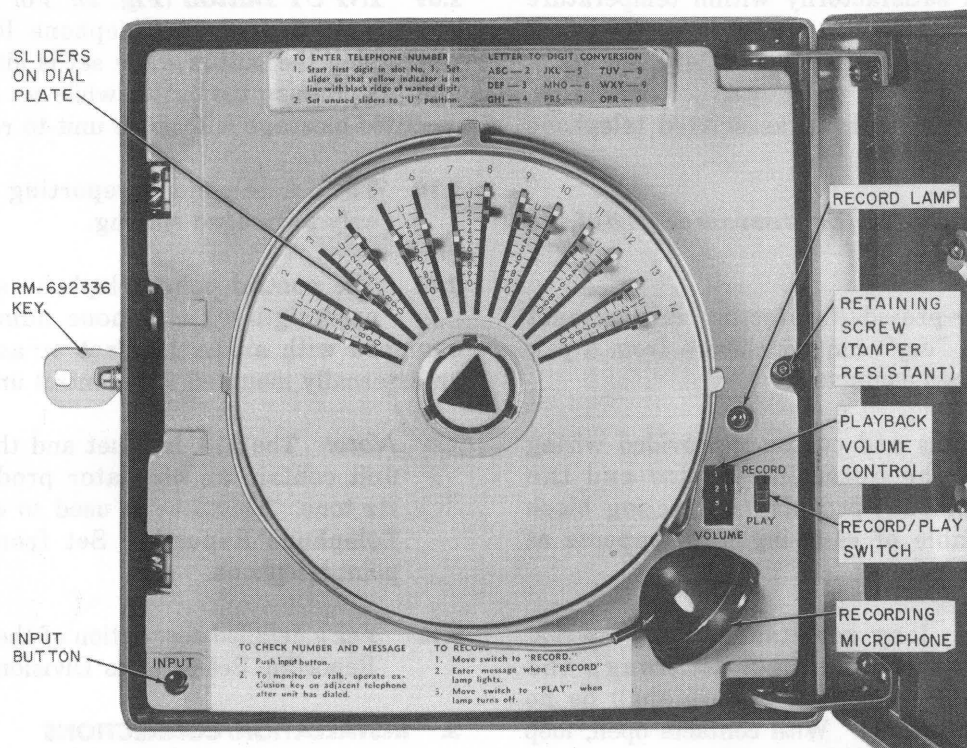
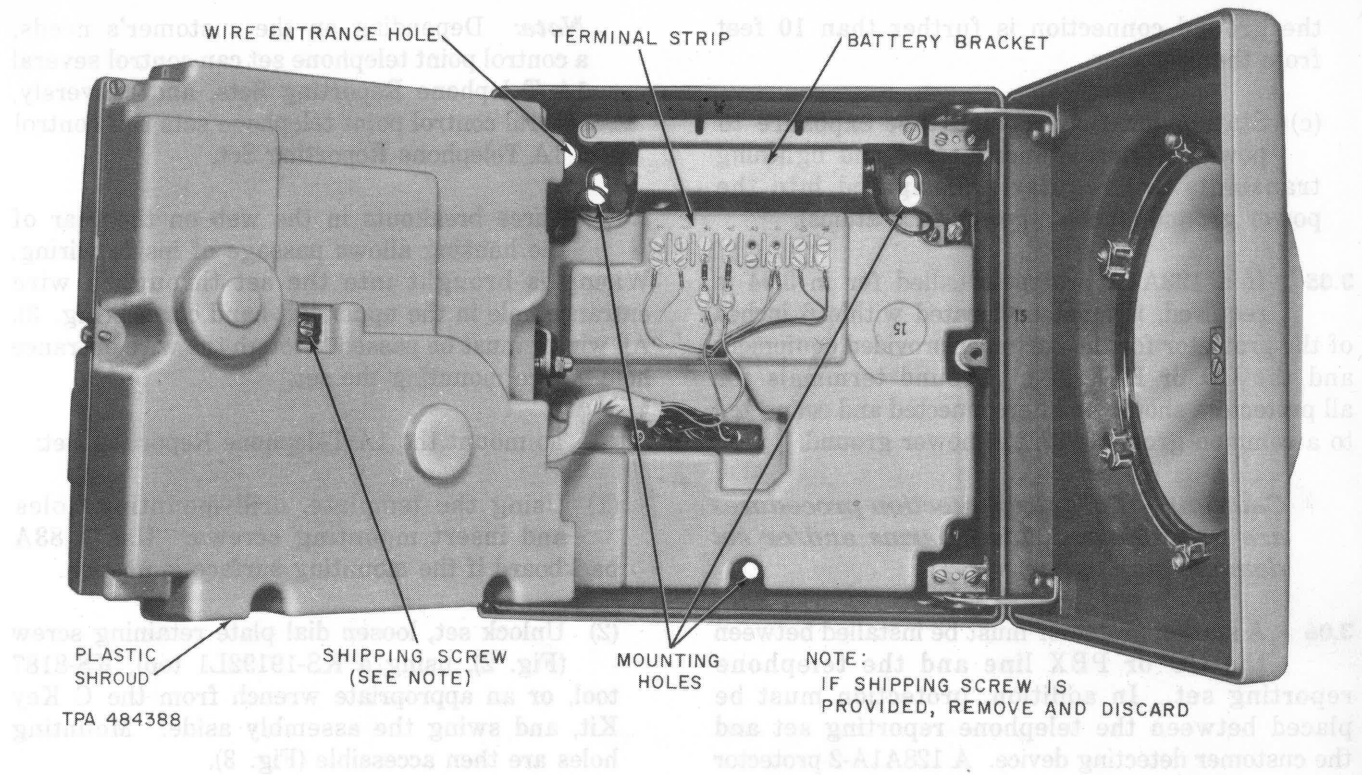

Fig. 2—1A Telephone Reporting Set, Controls
Fig. 3—Interior View of 1A Telephone Reporting Set
- Equipped with (tamper resistant) retaining screw, Fig. 2 (discourages customer from tampering with terminal behind control panel)
2.06 *Dial Plate:* Position sliders (Fig. 2), beginning with No. 1, to successive digits of predesignated telephone number. Unused sliders shall be placed in "U" position. To allow time for a second dial tone, if needed, two or three sliders after the access code should be positioned to "U". Example: 9, U, U, U, 555-2368.
2.07 *RECORD/PLAY Switch (Fig. 2):* In "RECORD" position previous message is erased and a new message (up to 11.8 seconds long) may be recorded by speaking into the "RECORDING MICROPHONE" during the time the "RECORD LAMP" is on. In "PLAY" position recorded message is transmitted to the telephone line when the 1A Telephone Reporting Set is activated.
2.08 *VOLUME Control (Fig. 2):* Adjusts the level of playback to manually compensate for local loop conditions.
2.09 *INPUT Button (Fig. 2):* For locally testing operation of 1A Telephone Reporting Set. Depressing the button while set is idle will activate unit. Depressing the button while set is transmitting recorded message will cause unit to reset.
3.09 Three breakouts in the web on the rear of the housing allows passage of inside wiring. Wiring is brought into the set through a wire entrance hole in the upper left-hand corner (Fig. 3). All wiring must be passed through the wire entrance hole before mounting the set.
- (1) Using the template, drill mounting holes and insert mounting screws. Use a 83A backboard if the mounting surface is uneven.
- (2) Unlock set, loosen dial plate retaining screw (Fig. 2), using a KS-19192L1 tool, KS-8187 tool, or an appropriate wrench from the C Key Kit, and swing the assembly aside. Mounting holes are then accessible (Fig. 3).
- (3) Mount the set, but do not tighten the mounting screws since all wiring must be brought in through the entrance hole in the upper left-hand corner (Fig. 3) or through breakout webs in the rear of the housing.
- (4) A terminal strip is provided for the termination of all wiring on the inside rear panel of the unit (Fig. 3).
3.13 If the shipping screw (Fig. 3) is provided, remove and discard. The telephone reporting set will not function with the shipping screw in place and tightened down.
3.14 To assure that all internal switches are in their proper operative positions, perform the following (Fig. 2):
- (c) Raise the exclusion key of the associated telephone and momentarily operate the INPUT button located in the lower left hand corner of the unit (Fig. 2). Unit will dial the number of the control point telephone but the dial pulses will not be effective because of the off-hook condition of the associated telephone set.
- (a) Open the unit and remove plastic shroud covering the mechanism. (See Fig. 3.)